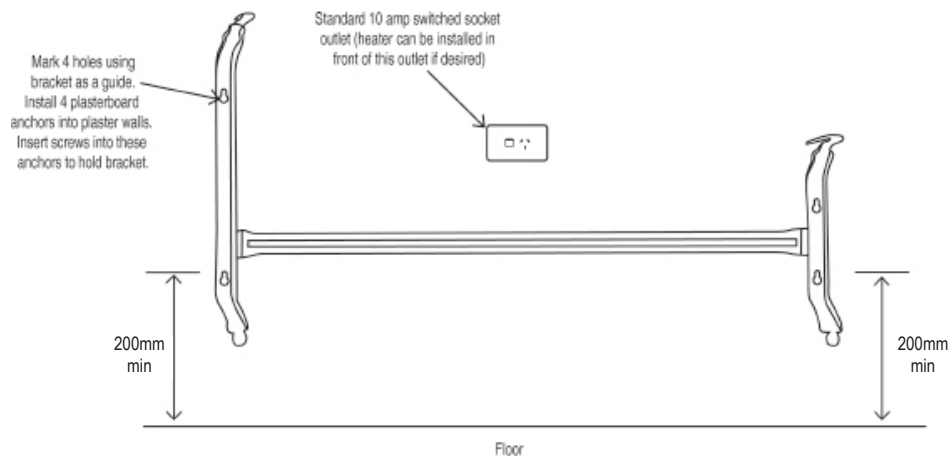

Fig 2 – Wall bracket showing how to attach to a wall
1. This heater may be mounted in front of a standard 10 amp socket outlet with the plug inserted. See Fig 2. Ensure the heater fully covers the socket outlet, plug and lead which results in a very clean looking installation.
3. Using the wall bracket as a template, and, keeping a minimum 200mm off floor level to the bottom holes in the wall bracket, carefully mark the position of the four plasterboard anchors or wallmates (locating a stud is not necessary), using the holes in the wall bracket as a guide. These anchors (not supplied) should be able to support a load of 5kg each. If a stud is accidentally located secure the bracket there using wood screws. See Fig 2. Keep the wall bracket level by placing a spirit level on the horizontal rail of the wall bracket.